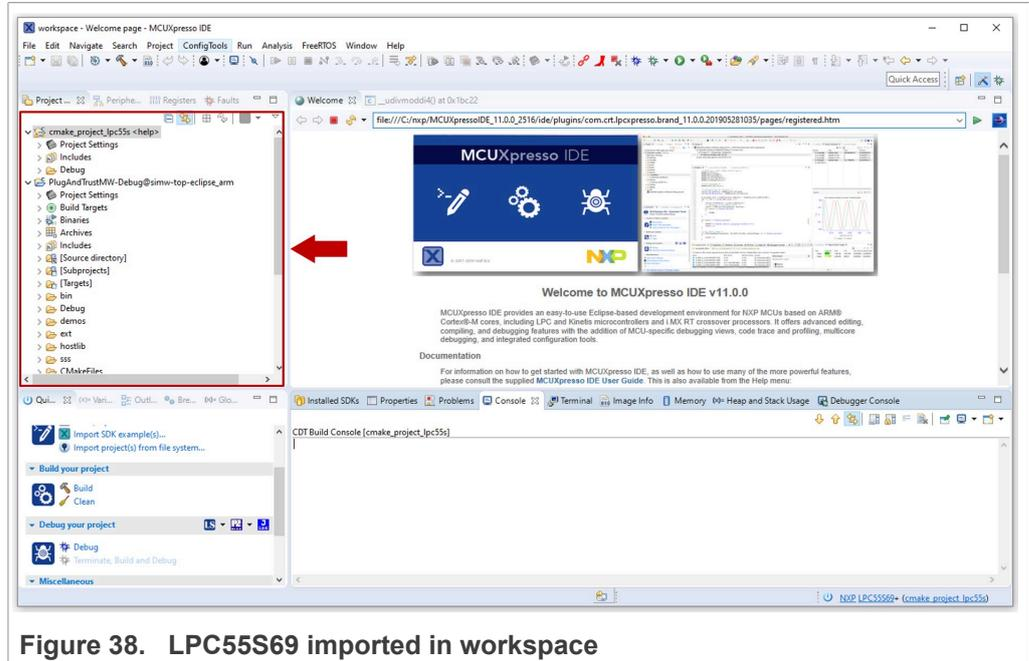

Figure 38. LPC55S69 imported in workspace
- Both The *PlugAndTrustMW* and *cmake_projects_lpc55s* projects should now be imported in your workspace as shown in Figure 38: